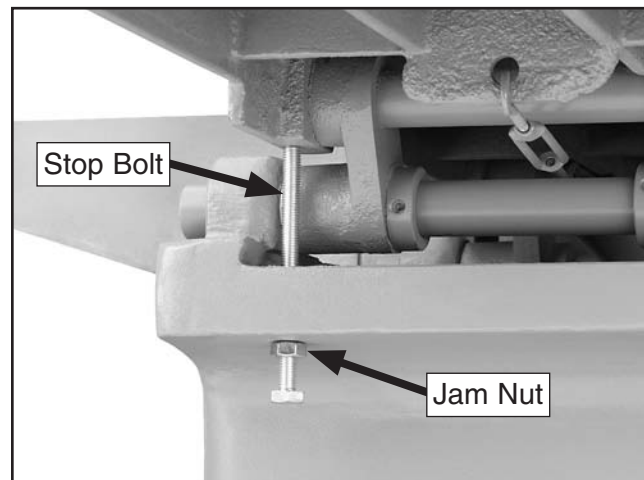

Figure 25. Table stop bolt (viewed from underneath the table).
6. Loosen the jam nut and adjust the outfeed stop bolt underneath the table so that it just touches the bottom of the tables, as shown in **Figure 25**, then re-tighten the jam nut.